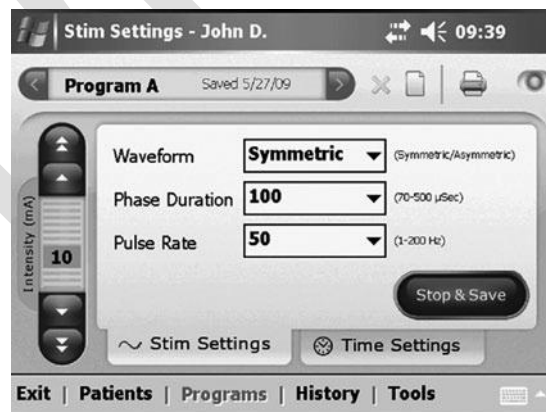

Figure 9-3. Press “Stop & Save” to stop testing and save the current stimulation settings.
6. Press “Stop & Save” to stop stimulation and save the stimulation settings to the clinician programmer, patient programmer and EPT. See Figure 9-3.